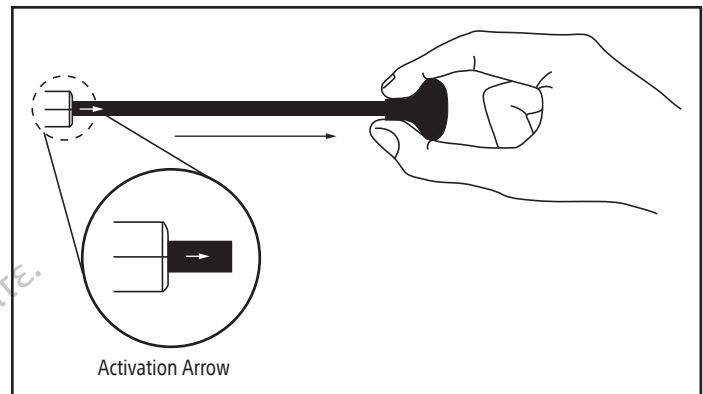

Figure 6. Long stents (150 mm) require the pull grip to be retracted only after the white activation arrow is visible to complete deployment.
2. Continue to roll thumbwheel until the middle shaft radiopaque marker band [5] passes the proximal radiopaque markers of the stent resulting in full deployment, or until the white activation arrow is visible on pull grip extension rod (for 150 mm length stents), which indicates that pull grip activation is required to complete stent deployment (Reference Figure 6). Long stents (150 mm) will not be fully deployed by the thumbwheel alone.